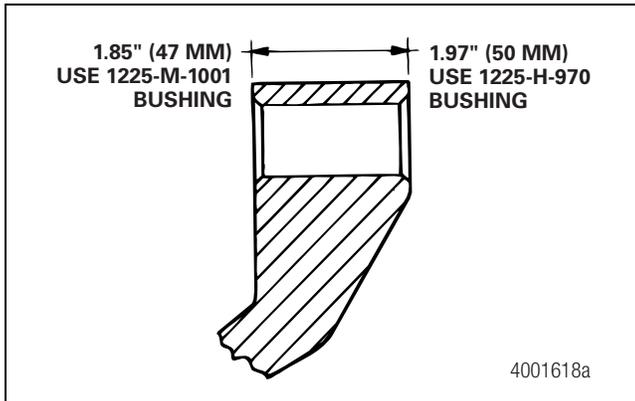

Figure 9.5
1. Select the correct bushing for the torque plate. Use part number 1225-H-970 for 1.97-inch (50 mm) wide arms. Use part number 1225-M-1001 for 1.85-inch (47 mm) wide arms. Figure 9.5.